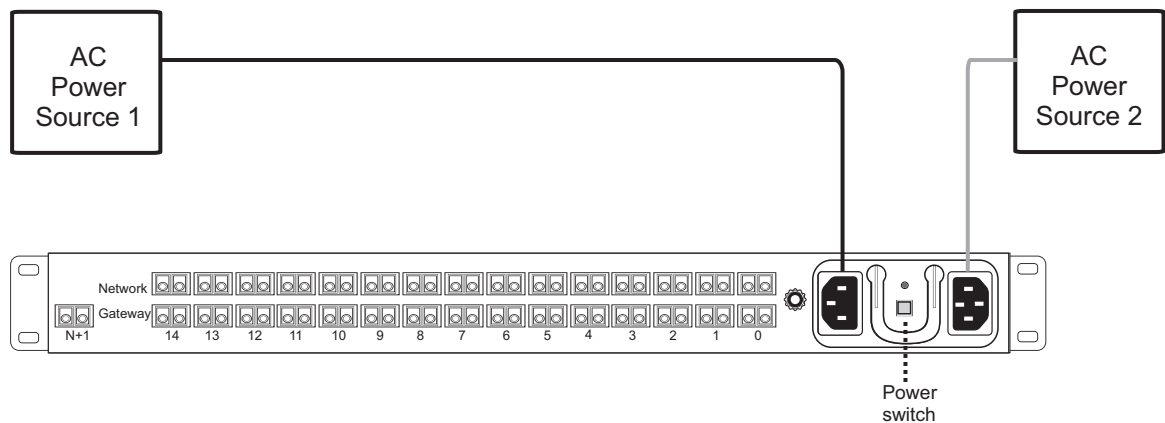

Figure 6.3 AC Power Connection
1. Connect an AC power cable between the AC connector of the 7800 N+1 Patch Panel and an AC supply. See figure 6.3 on page 49.